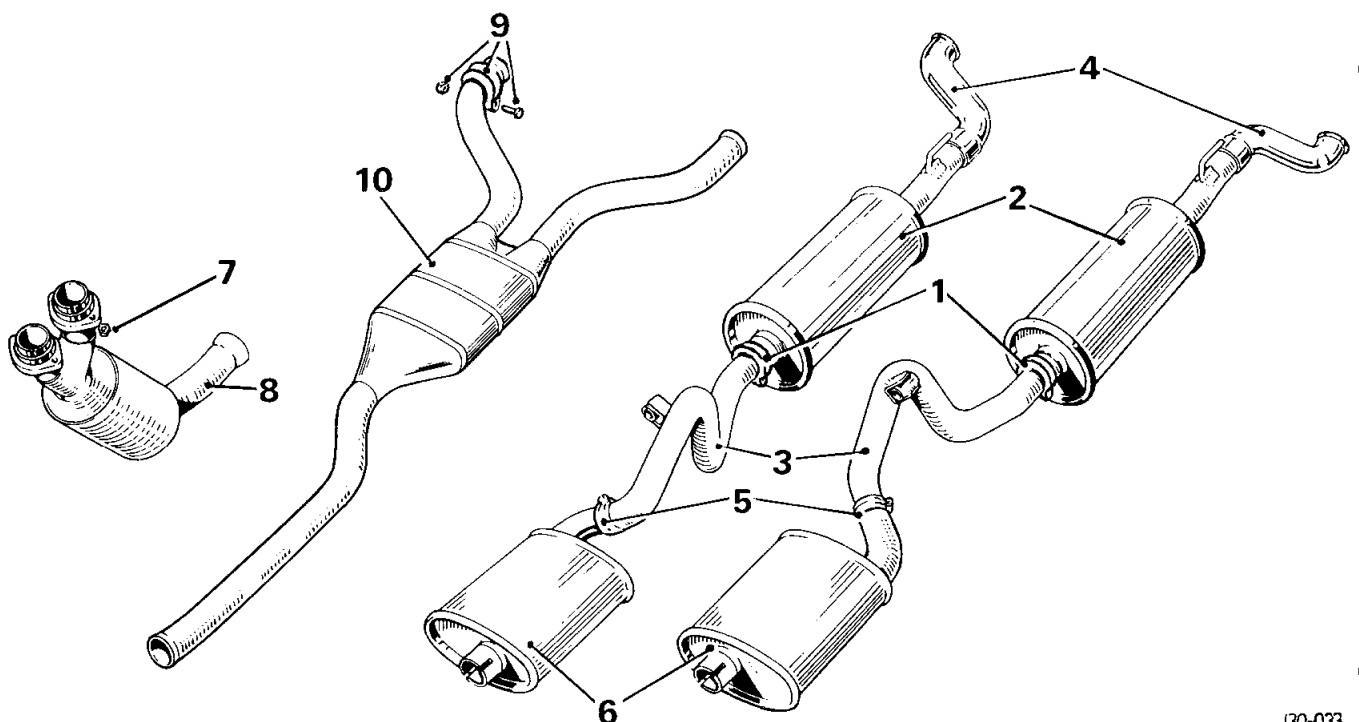

Fig. 6
**NOTE:** For federal vehicles disregard any reference to the front pipe and refer to Fig. 6.